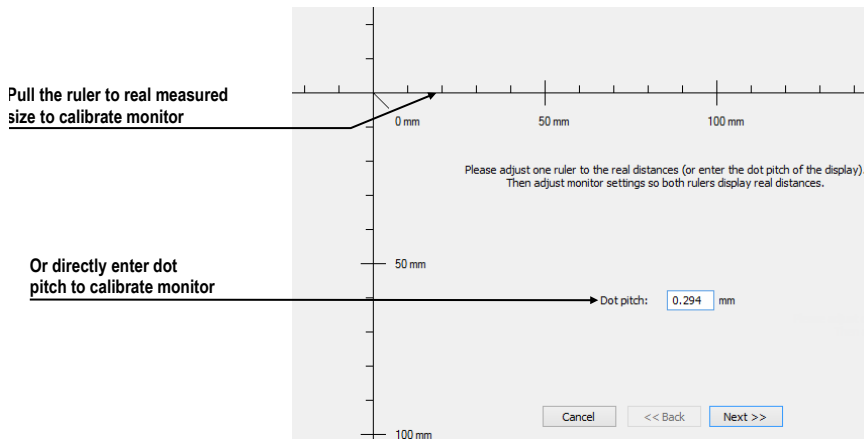

Figure 75 – Monitor calibration
2. The **Full screen calibration** dialog is displayed on the selected monitor (see Figure 75).